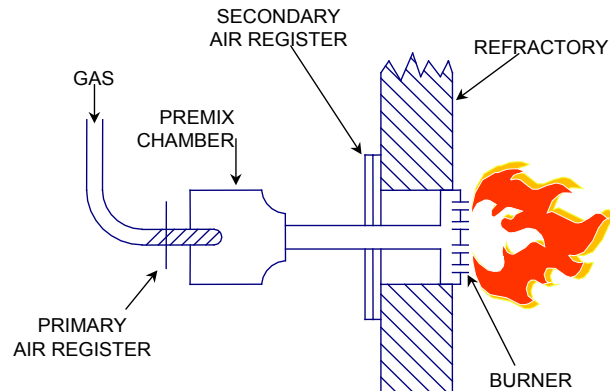
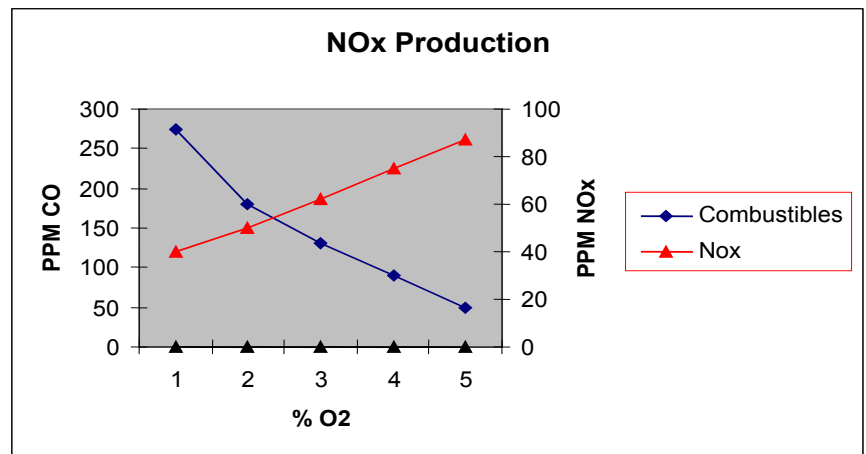

Figure 8. Burner with too much combustion air.
Figure 9. An example showing how NO_x production increase with increasing excess air.
Too much combustion air reduces flame temperature and drops efficiency (Figure 8). In most applications this is the biggest source of heater inefficiency and NO_x production. The high temperature in the flame and radiant section, together with combustion turbulence at the burners, causes dissociation of air molecules. The nitrogen and oxygen atoms combine to form nitric oxide (NO) and nitrogen dioxide (NO₂), together known as NO_x. The more combustion air, the more oxygen is available to produce NO_x. Conversely the less oxygen the less chance of NO_x formation (Figure 9).